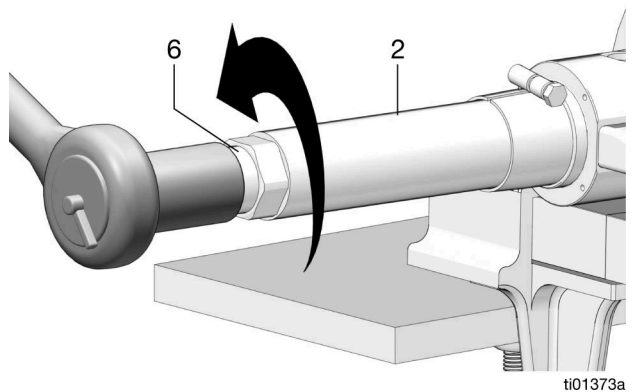

FIG. 9
- Use a 1 - 7/16 in. socket to loosen the seal retainer (6), but leave it hand-tight in the pump cylinder (2). (FIG. 9).